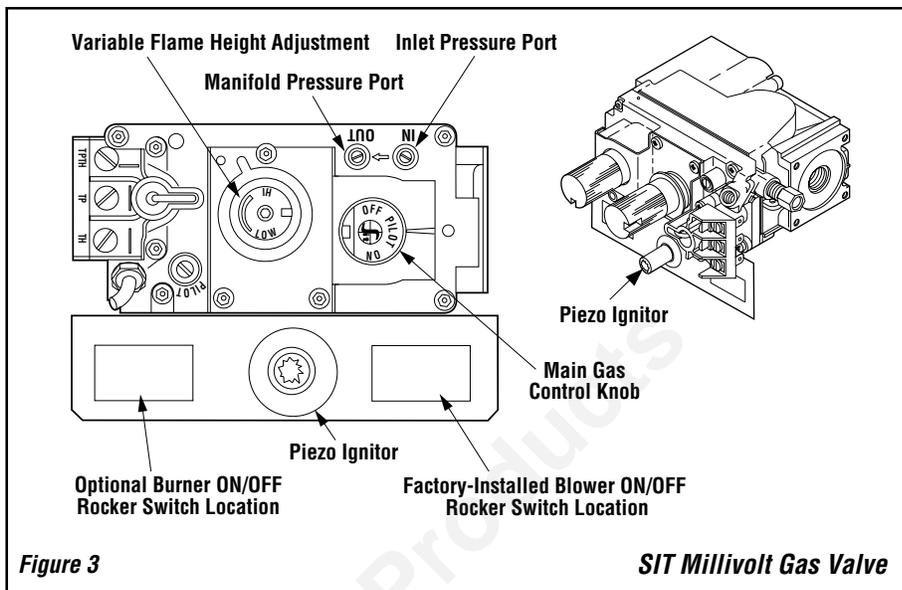
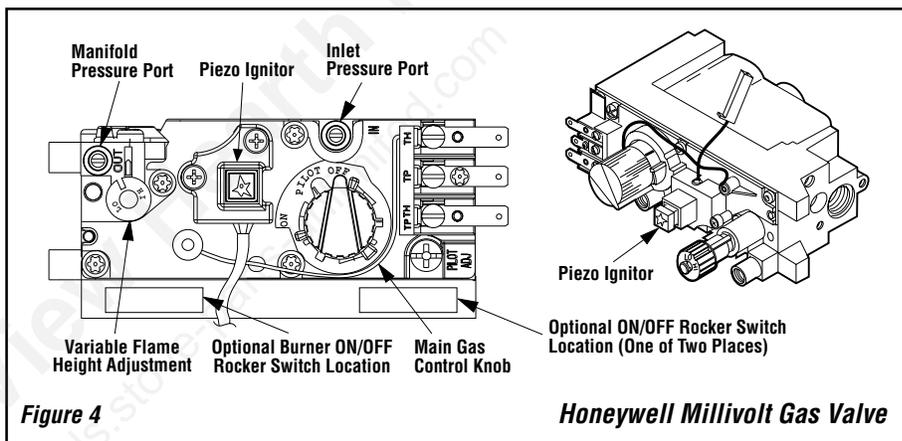

Figure 3
Figure 4
Millivolt appliances will be fitted with the gas control valve shown in **Figure 3 (SIT) or Figure 4 (Honeywell) on page 4**. Appliances with electronic systems will be fitted with the electronic valve shown in **Figure 2 on page 4**.
1. All Millivolt appliances are equipped with a variable gas control valve. Flame height for these models may be adjusted through a range between fixed low and high settings, alternately, while the appliance is in operation. Adjust the flame height as desired after lighting the appliance by rotating the variable adjustment control knob located on the front of the valve (**refer to Figure 3 - SIT, 4 - Honeywell**).